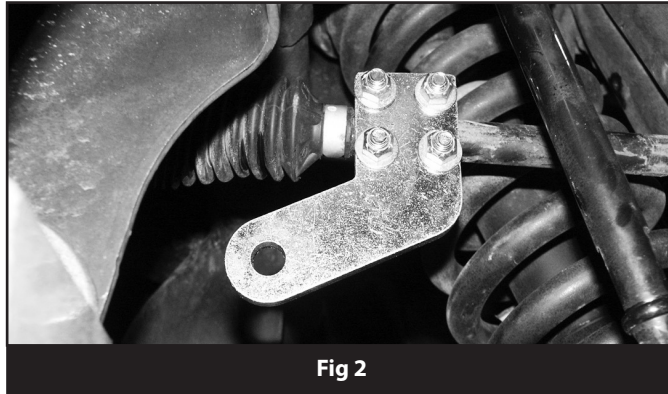

Fig 2
4. Locate the two provided tie rod brackets and u-bolts. Loosely install the brackets to the tie rods, with hardware from BP #308, so that the bracket sets against the end of the rack and pinion dust boot (Fig 2). The cylinder mounting tab should point in toward the center of the vehicle and the bracket mounts on the front side of the tie rod (the u-bolt nuts will be accessible from the front of the vehicle).